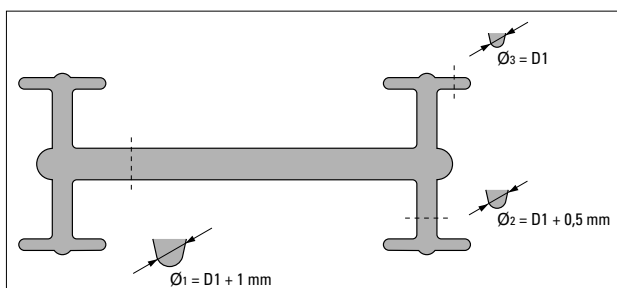

Fig. 4.07 Correct runner thickness for an eight cavity mould
When the mouldings are very thin, however, this runner cannot be less than about 1,5 mm in thickness. The runner thickness is usually increased at each of the first one or two turns from the cavity, as shown in the example of Fig. 4.07.
- for parts having thickness  $> 1,5$  mm, follow general rules for crystalline polymers (Fig. 4.07);